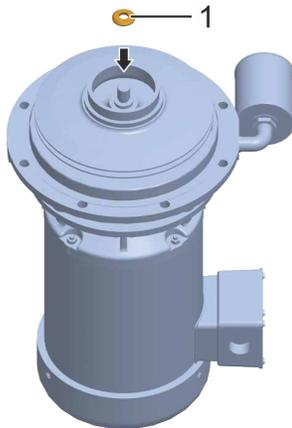

Fig. 107 Inserting the washer
12. Insert the (Fig. 107/1) washer.